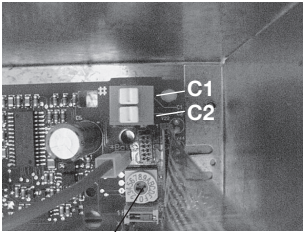
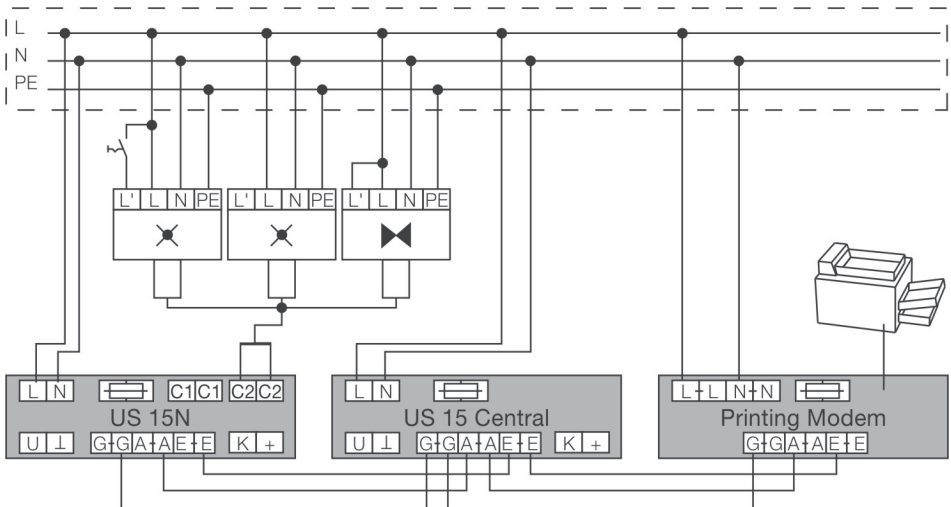

Fig. 12
Fig. 14 Connection of EZB luminaires to a US 15 N monitoring facility
The S 8311 CG I luminaire is suitable for connection to CEAG monitoring systems, e. g. US 15N or US 15N.1. The individual luminaires can be connected to a monitoring facility, whether operated by a light switch (A), in non-maintained mode (B) or in maintained mode (C) (fig. 14). You only need to connect a two-wire cable (e. g. YR 2 x 0.8 mm²) with a max. length of 1500 m to the terminals C1 and C2 (fig. 12). Via the second enclosure opening (see page 3, fig. 2 and 3) these terminals can be connected.